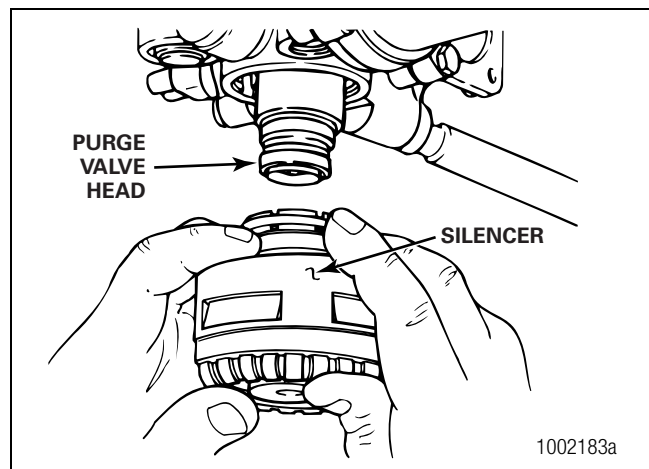

Figure 2.23
3. Install replacement silencer firmly onto purge valve head until fully seated. Secure with retainer ring. Figure 2.23.